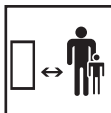

Figure 2
**ALWAYS** replace missing or damaged Safety Decals. Refer to Figure 2 for Safety Decal locations.